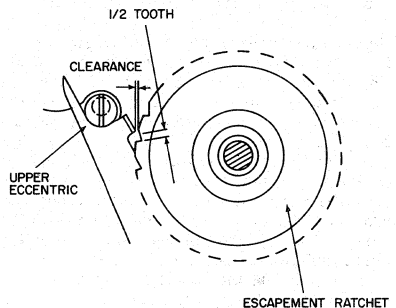

Figure 53
6. Adjust the upper eccentric stop so there is clearance from the back space pawl to the escapement pinion ratchet, and the back space pawl enters the escapement pinion ratchet at least 1/2 the distance down the vertical face of the tooth, but doesn't enter the ratchet and contact the horizontal face of the tooth to rotate the ratchet (Figure 53).